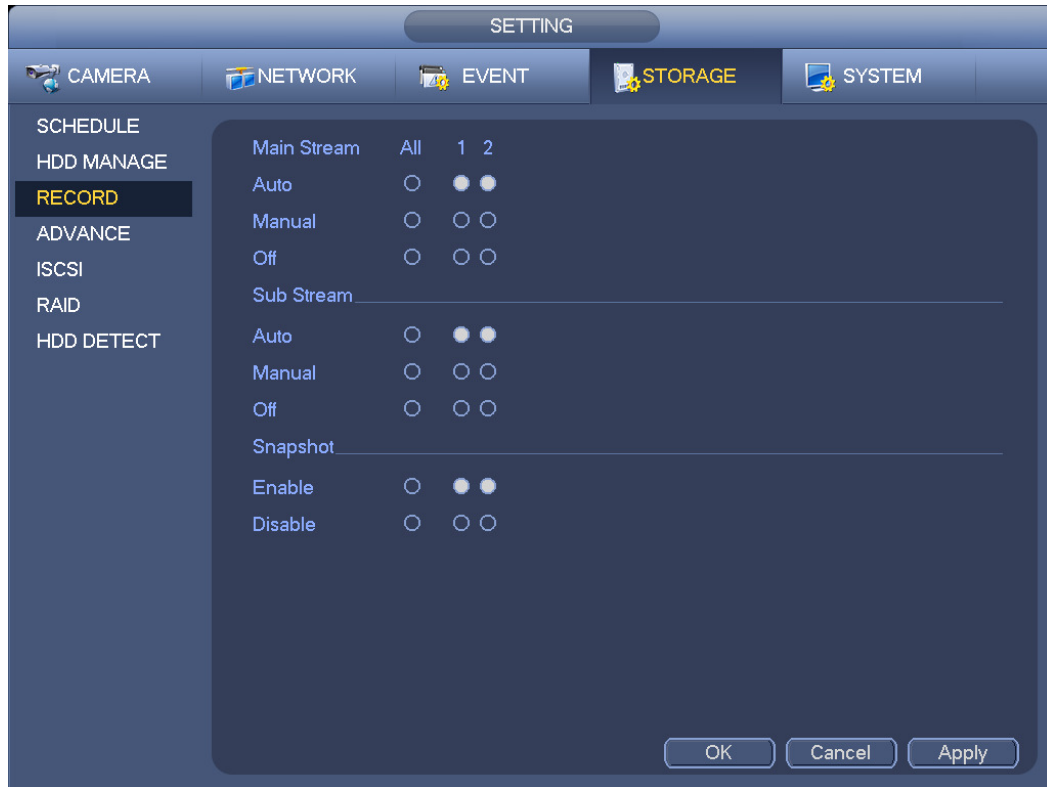

Figure 3-76
- a) Right click mouse and select manual record or in the main menu, from Setting->Storage->Manual Record. Manual record menu is shown as in Figure 3-76.